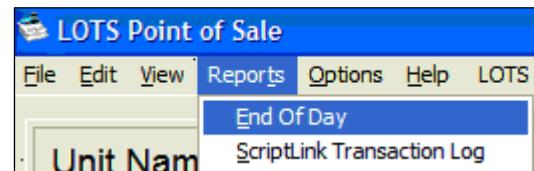

Figure 92
1. Navigate from the LOTS Start Menu → **Sales** → Reports drop down menu → **End of Day** (as shown in Figure 92).